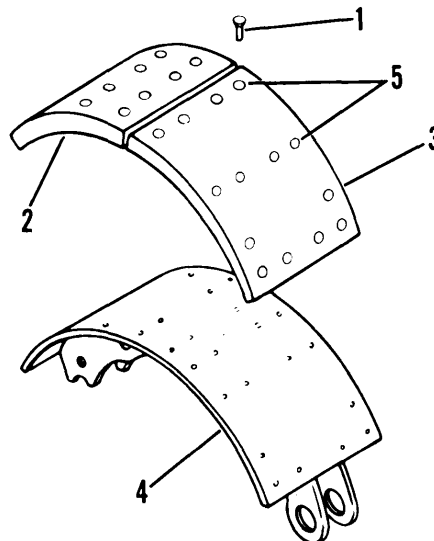

Figure 5-7. Brake Lining Replacement
- (1) Remove 12 rivets (1, fig. 5-7) from each lining (2 and 3).
- (2) Strip linings (2 and 3) from brake shoes (4).
- (1) Install new lining (2, fig. 5-7) on brake shoes (4).
- (2) Align rivet holes (5) in brake shoe (4) and lining (2 and 3). Clamp linings in place.
- (3) Install end rivets (1) in lining (2 and 3). Remove clamp and install remaining rivets (1).
- (4) Check contact of linings (2 and 3) with brake shoe (4) after riveting. A 0.010 inch feeler gage should not enter between brake shoe (4) and lining (2 and 3) at any point.
- (5) Install brake shoes (para. 4-42).
- (6) Install brake drum and hub (para. 4-47).
- (7) Install tires and wheels (para. 4-45).